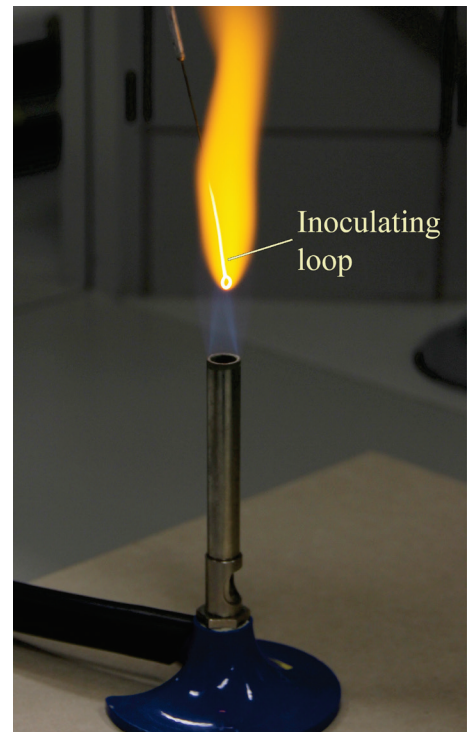

Fig. 13
13. Flame the inoculating loop to red hot (Fig. 13) and allow it to cool*.